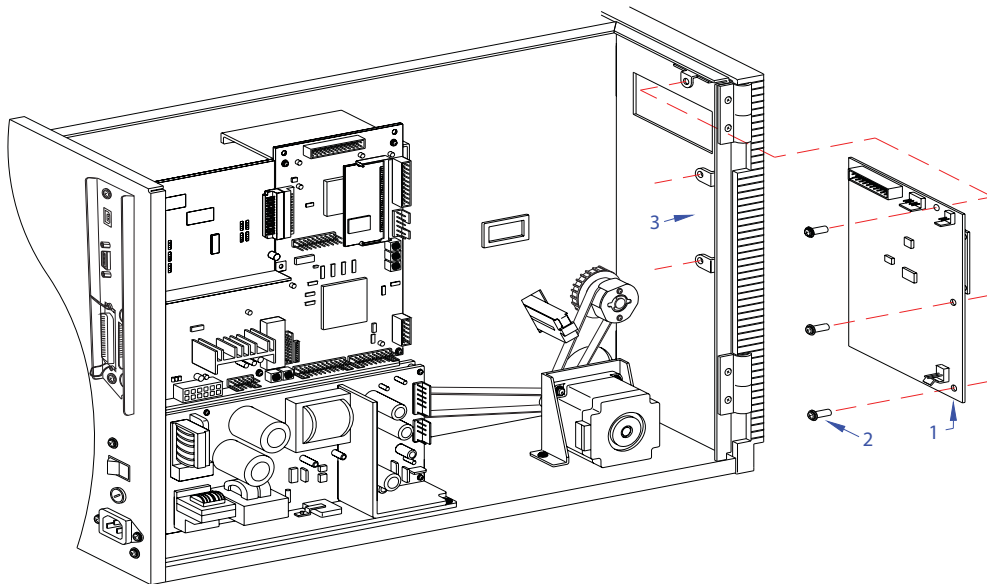

Figure 7-10a, Panel & LCD Board Replacement
- 3 Disconnect all wiring harnesses from defective panel board (1, Figure 7-10a) from other printer components.
- 4 Remove three screws (2) securing defective panel board (1) to the printer frame (3). Lift away board (1).